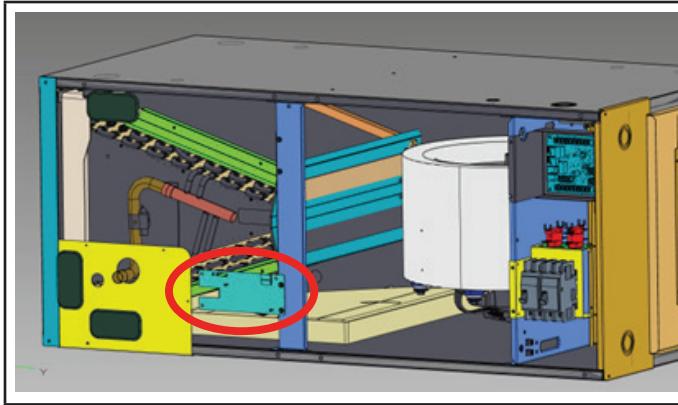

FIGURE 9
- 1 - Remove sensor bracket assembly from vertical position (shown in figure 9). Do not remove sensor from bracket, and do not disconnect or reroute sensor wire from the control panel area.